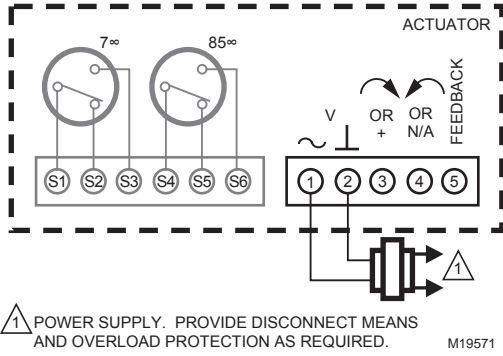

Fig. 10. Terminal block details.
For SPDT end switch wiring, see Fig. 10.
2. Connect power to terminals 1 and 2. (See Fig. 10 and Table 4.)
4. Apply control signal for actuator 100% position. (See Fig. 10 and Table 4.)
- a. (0)2-10 Vdc: apply 10 Vdc signal to terminal 3.
- b. 10-(0)2 Vdc: apply (0)2 Vdc signal to terminal 3.
- c. (0)4-20 mA: apply 20 mA signal to terminal 3.
- d. 20-(0)4mA: apply (0)4 mA signal to terminal 3.
- e. Floating: apply 24 Vac to appropriate CW (3) or CCW (4) terminal.
6. Apply control signal for actuator 0% position. (See Fig. 10 and Table 4.)
- a. (0)2-10 Vdc: apply (0)2 Vdc signal to terminal 3.
- c. (0)4-20 mA: apply (0)4 mA signal to terminal 3.
4. Apply control signal for actuator 50% position. (See Fig. 10 and Table 4.)
- c. Floating: apply 24 Vac to appropriate CW (3) or CCW (4) terminal.